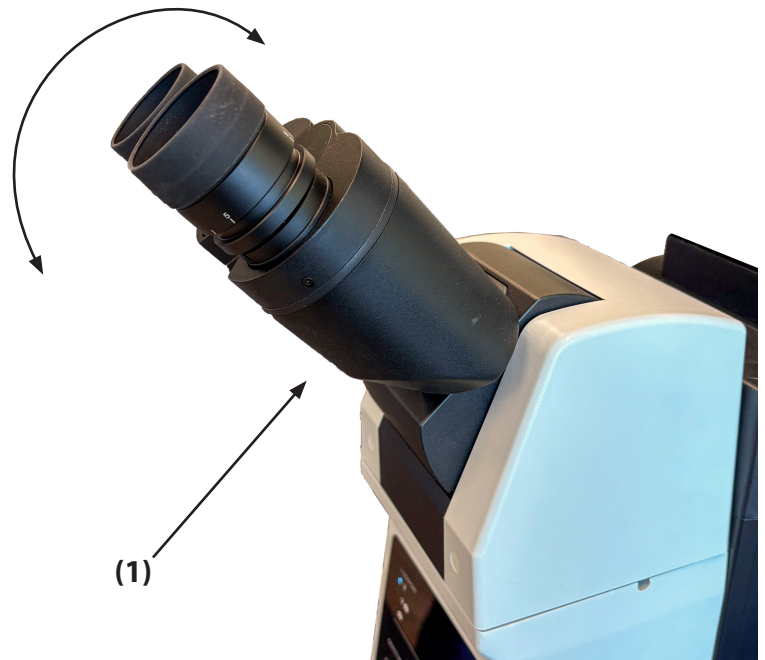

Figure 17
To optimize the viewing angle for comfortable use, the eyepieces may be moved up or down as shown in Figure 17. Using both hands, hold onto the eyetubes (1) and gently maneuver them up or down to achieve desired viewing position. The viewing angle can be adjusted to be between 20 and 45 degrees. **Note: Do not try to force the eyepieces to move above or below the limits of the upper or lower viewing angles.**